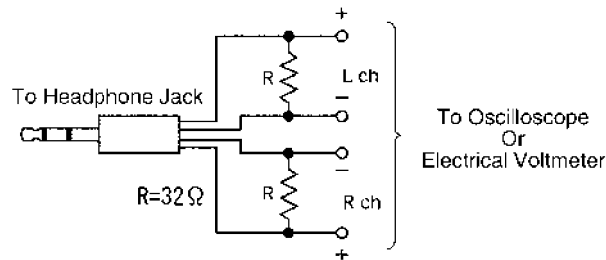

Figure 2
- a. Test tape (as described in item 2).
- b. Headphone Jack output jig (Figure 2).